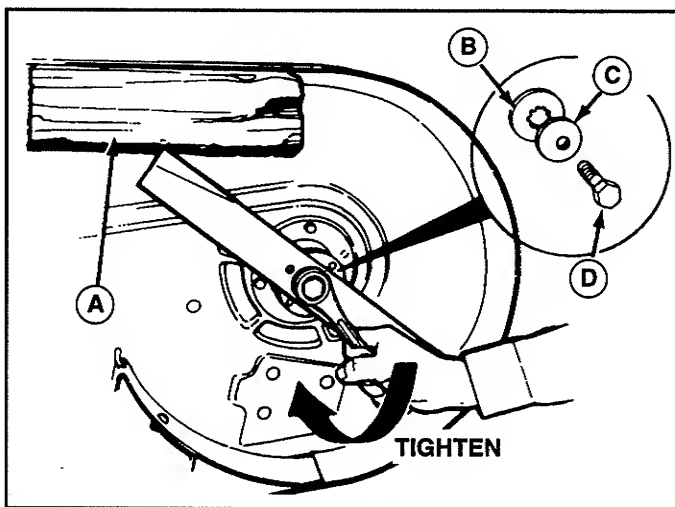

Figure 25. Installing The Blade
6. Reinstall each blade with the tabs pointing up toward deck as shown in figure 25. Secure with a capscrew (D), cup washer (C) and spline washer (B). Use a wooden block to prevent blade rotation and torque capscrews to 50-70 ft.lbs. (67-95 N.m.).